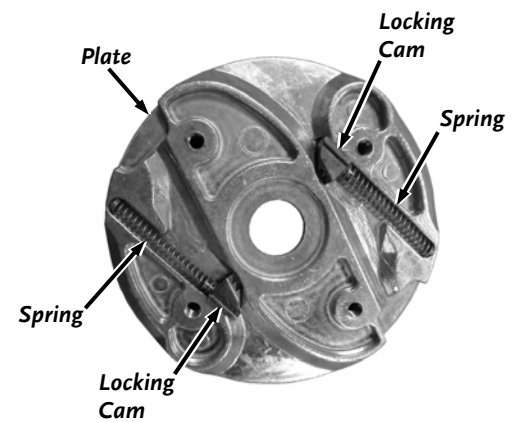

Figure 34
20. Reinstall the Springs and Locking Cams into the middle and bottom Plates (**Figure 34**).